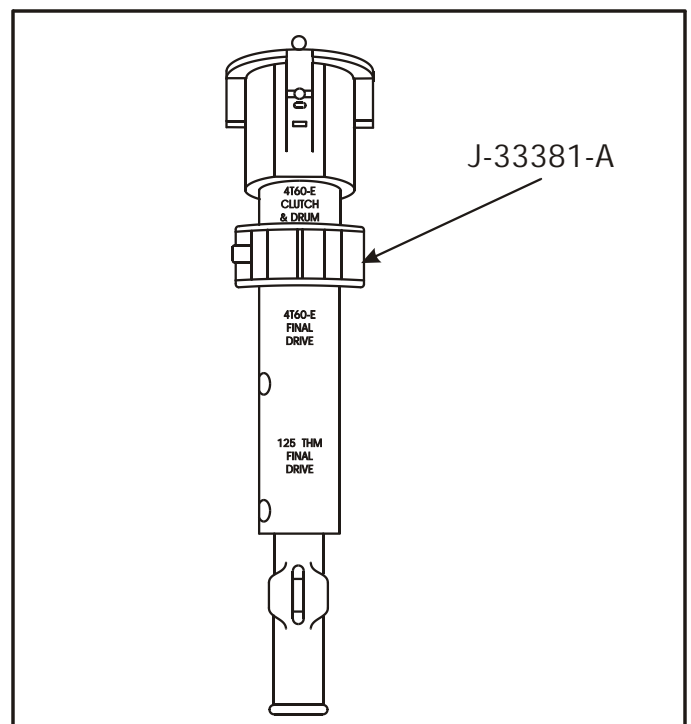

Figure 69
19. Adjust the collar on tool J-33381-A to the "4T60-E CLUTCH & DRUM" position, as it is shown in Figure 69, and ensure the threaded rod is fully loosened.